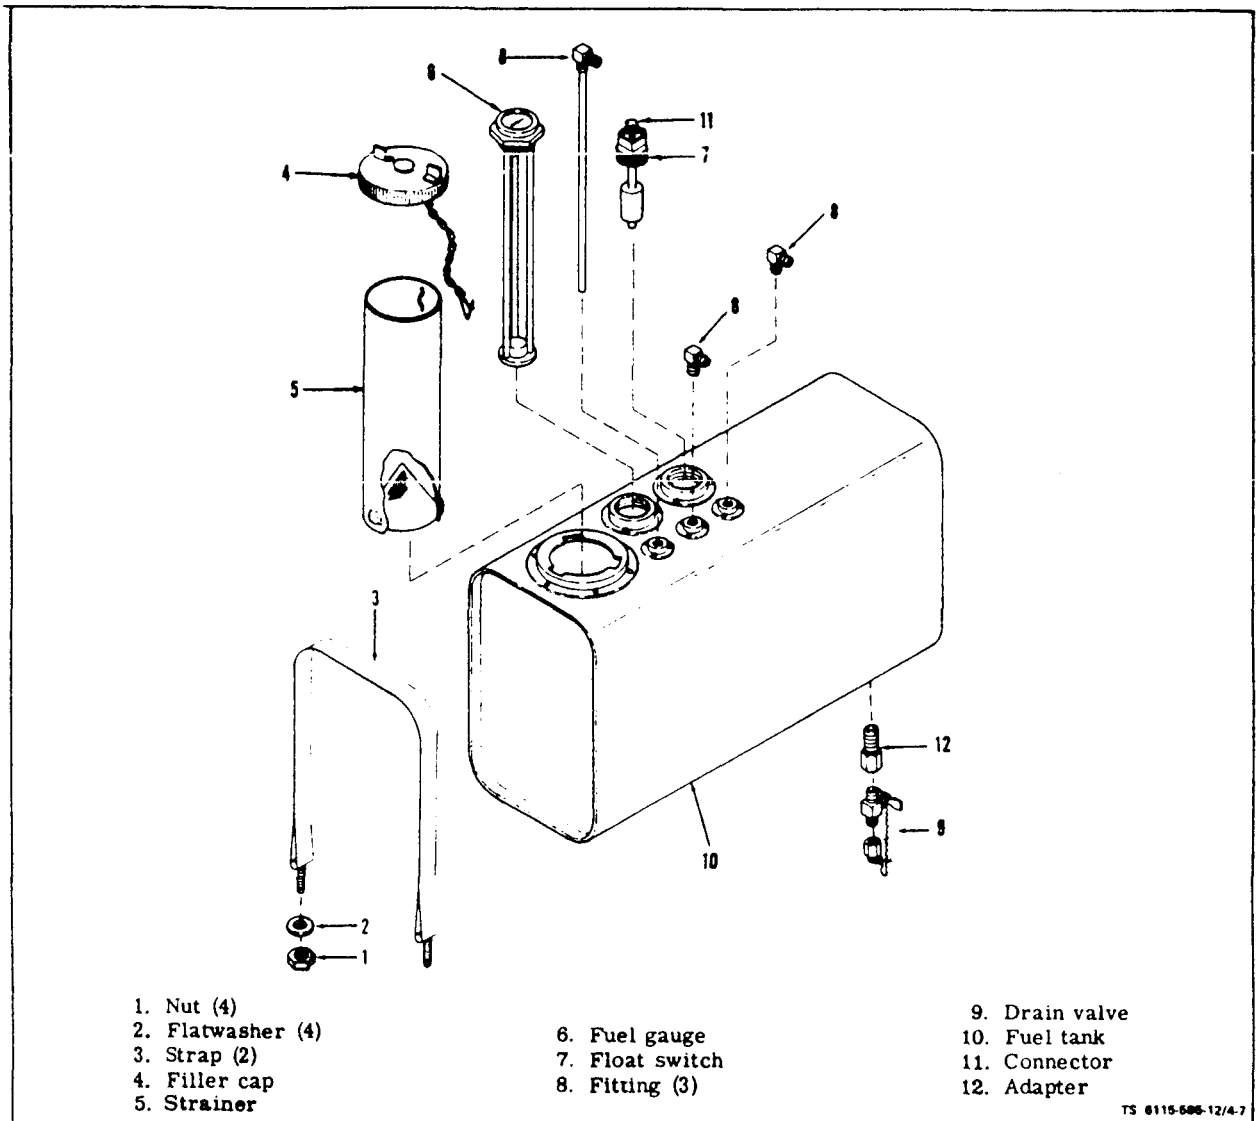
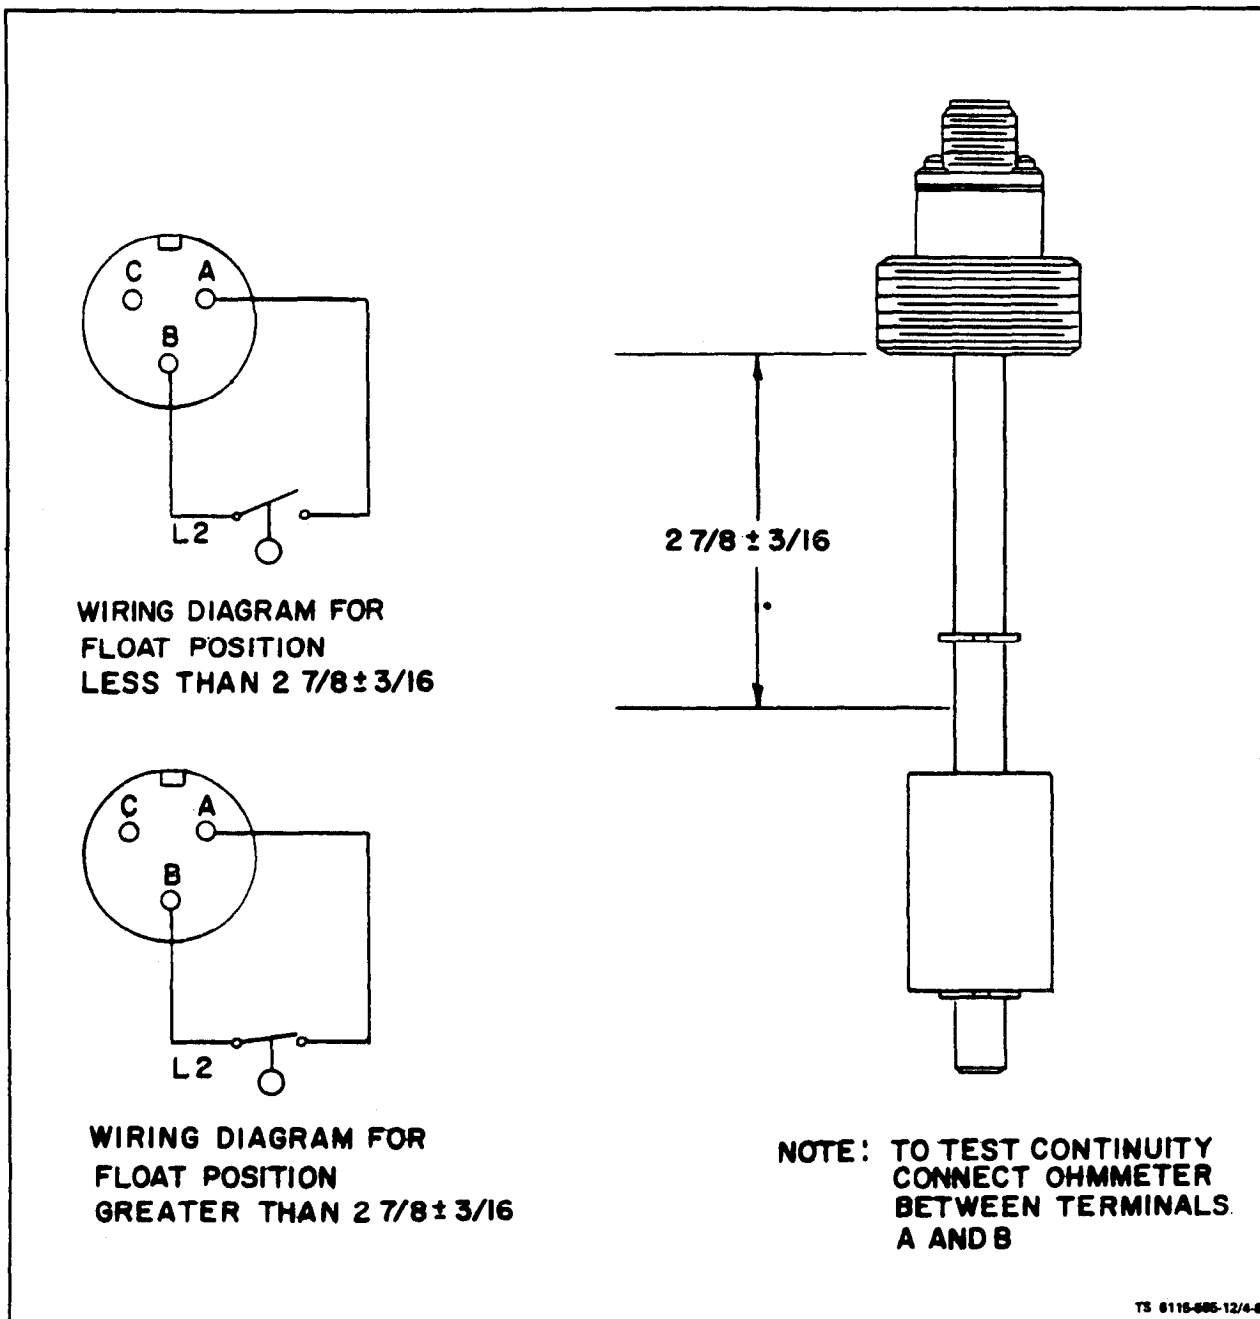

Figure 4-7. Fuel Tank Assembly
Figure 4-8. Testing Float Switch
b. Removal (see figure 4-7). Drain fuel into suitable container by opening drain valve. Tag and disconnect fuel hoses from fuel tank fittings. Disconnect electrical lead from electrical connector (10). Remove nut (1) and flatwasher (2) from straps (3) on outside of fuel tank. Remove tank from skid-base. On ASK equipped generators, remove top panel, left panel and side closure assemblies (para. 5-4 and 5-5).
(1) Fuel Level Gage. Unscrew and remove fuel level gage (5) using tools only on the hex portion of the gage.
(2) Float Switch. Unscrew collar and disconnect electrical connector (10) if not previously disconnected. Unscrew and remove float switch (6) using tools only on the square portions of the switch.
(3) Unscrew and remove fittings (7).
(4) Holding pipe adapter (11) with a wrench, unscrew and remove drain valve (8).
(5) Loosen filler cap and remove filler cap (4) and strainer (5).
(1) Float Switch. Remove float switch (6) from tank (9). Using an ohmmeter, check for continuity between terminals A and B of switch (see figure 4-8). Switch should show no continuity when float is up. Switch should close when float drops to 2-7/8 $\pm$ 3/16 inch from threaded collar of float switch. Replace switch if it does not operate properly.
(2) Tank. If tank shows signs of physical damage or leaks refer to higher level of maintenance.
f. Reassembly (see figure 4-7).
(1) Fuel Drain, Valve. Engage threads of fuel drain valve assembly (8) 1/2 turn into fuel tank adapter (11). Coat threads with sealing compound ML-S-22473. Tighten valve assembly into adapter (11).
(2) Fittings. Engage threads of fitting (7) 1/2 turn into fuel tank (9). Coat threads with sealing compound MIL-S-22473. Tighten fittings into tank. Fittings should face Generator Set for proper connection of fuel lines. Attach fuel lines to fittings.
(3) Float Switch. Engage threads of float switch (6) 1/2 turn into tank (9). Coat threads with sealing compound ML-S 22473. Tighten float switch (6) into tank using tools only on square portion of switch. Attach electrical lead to connector (10) on top of float switch and tighten.